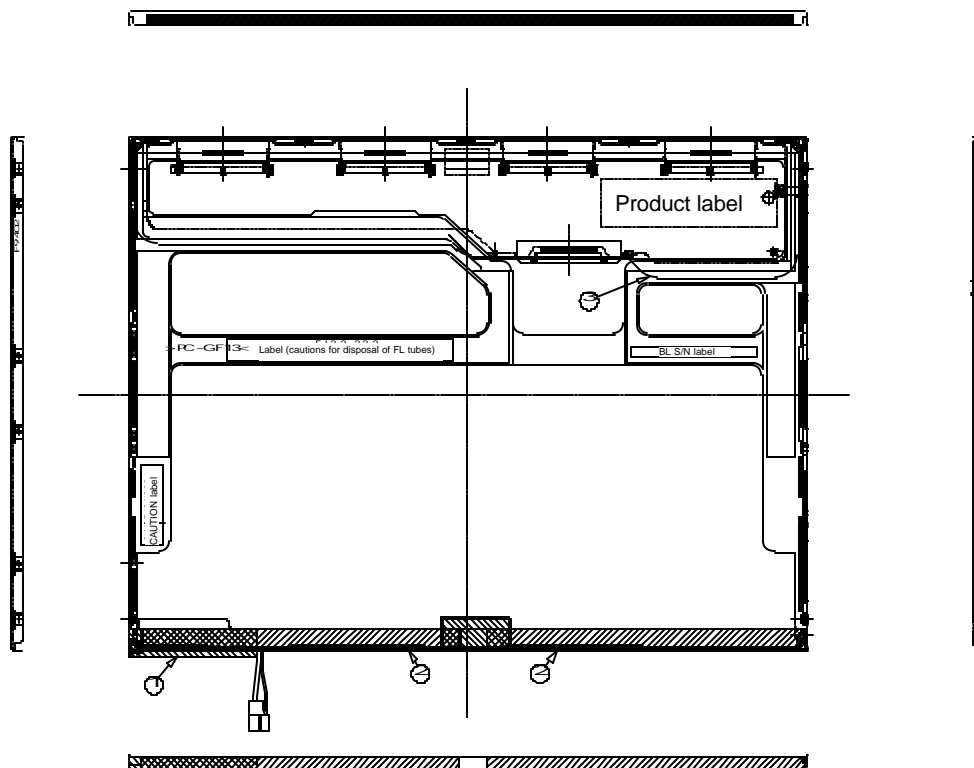
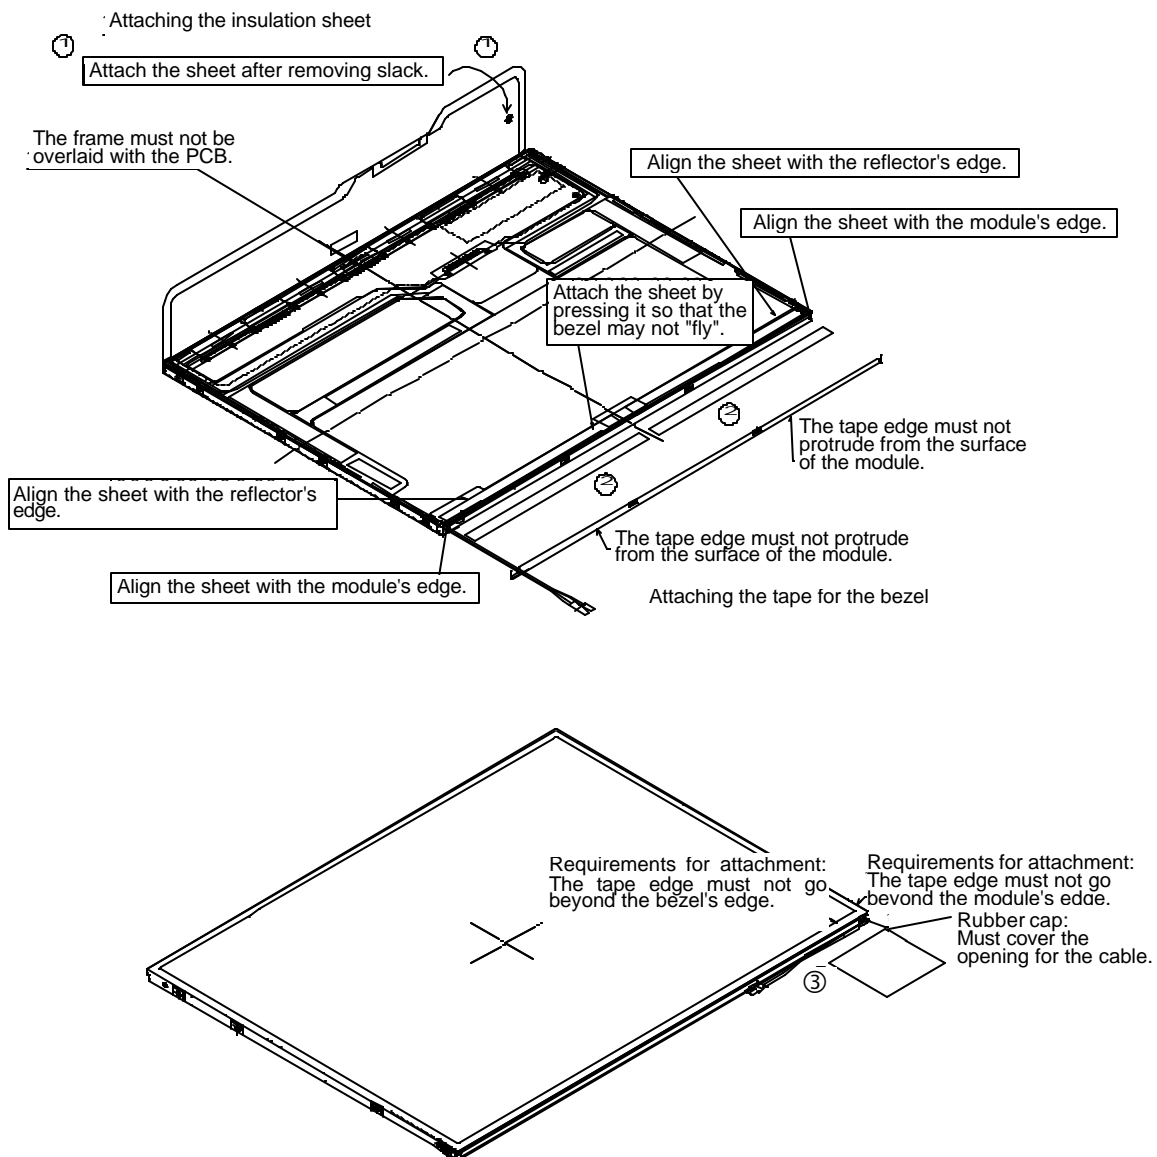

Figure 4-63 Replacing 14 Inch TMD fluorescent lamp (1)
Figure 4-74 Replacing 14 Inch TMD fluorescent lamp (12)
The following describes the procedure for replacing the fluorescent lamp (See Figure 4-63 to Figure 4-74)
2. In the order (1), (2), and (3) shown in Figure 4-63, remove the tape for fixing the FL tube cable, two pieces of tape on the bezel that are close to the FL tube, and the X-PCB insulation sheet.